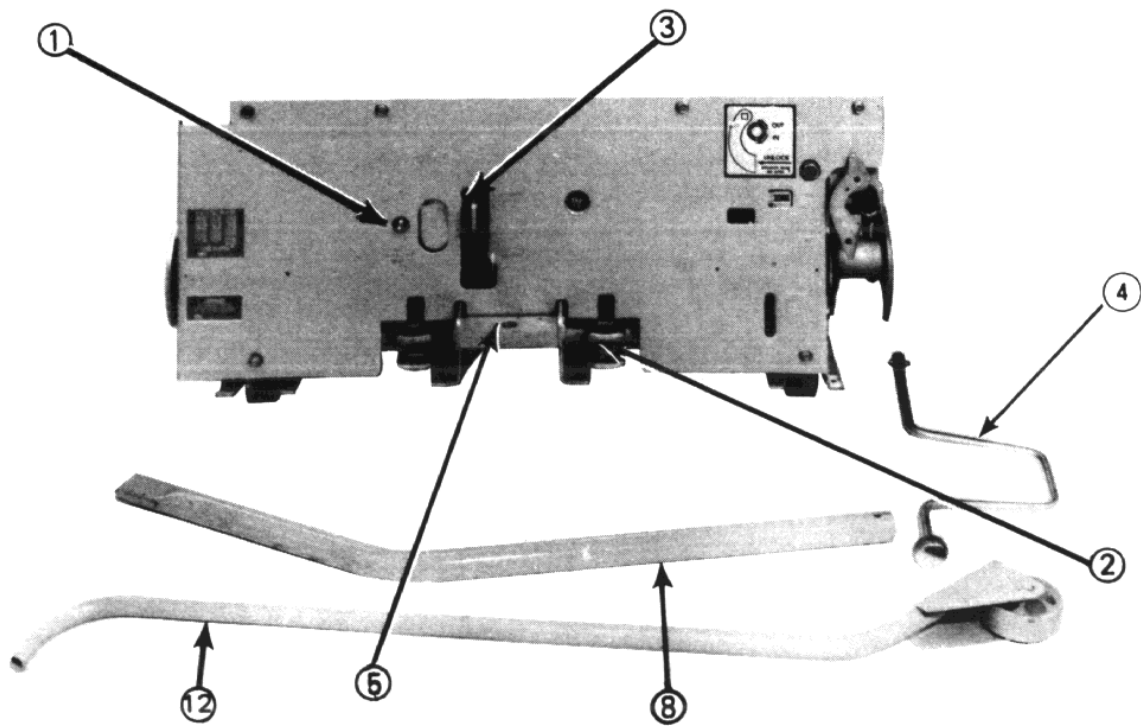

Fig. 3 — Front Circuit Breaker Panel & Accessories
### Installing Circuit Breaker into Compartment (See Figs. 3&4)
Turn motor disconnect switch (1, Fig. 3) to "OFF" position.
For installing the circuit breaker into the lower compartment, the fifth wheel is used to position the breaker so that it is lined up with the switchgear. Engage the fifth wheel (12, Fig. 3)
with hole (5, Fig. 3). The lift device is required to lift and position the breaker for installation into the upper compartment. Guide and push circuit breaker into compartment until stopped. Again engage racking crank and rotate clockwise until racking mechanism automatically stops at "DISCONNECT" position. (Breaker is now held captive in compartment.)
With the circuit breaker racked to "TEST" position, it should be checked for proper operation by operating all possible means of opening and closing, this includes control switches, relays, etc. Turn motor disconnect switch (1, Fig. 3) to "ON" position to charge the closing springs, and operate the breaker as required.
2. Fully closed breaker (See Fig. 3). Charge the closing springs and turn the motor switch (1) off. Close the breaker. Engage manual charge handle (8) with charging lever (3). During the initial portion of the downward stroke of the handle check to see which direction the closing spring guides (2) move. If this spring guides start to move out then the breaker did not fully close. If the spring guide begins to move in and with additional pumping moves in until the mechanism can be heard to "snap in", then the breaker did not fully close originally. Excess contact pressure or friction can cause this condition and if it cannot be relieved then the factory should be consulted.